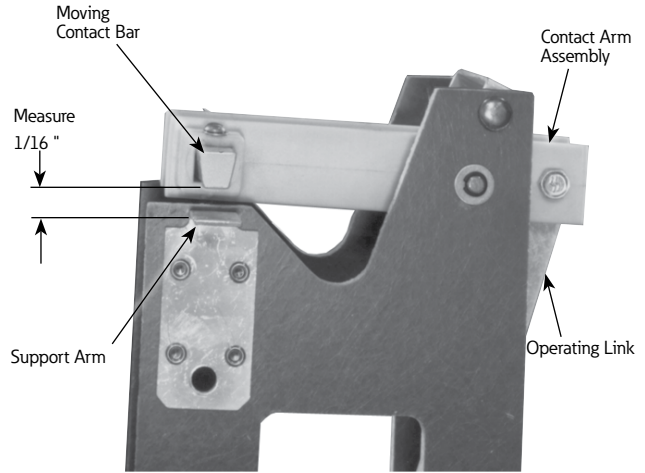

Figure 10. Contact engagement adjustment (stationary contact removed to show measuring point).
6. With the mechanism closed, the moving contacts should be within 1/16-inch of full engagement, as measured between the top edge of the moving contact insulator and the bottom edge of the contact box side plate as shown in Figure 10. To obtain this dimension, adjust the effective length of the insulated operating link by adjusting the attaching point for the contact arm assembly in the slotted hole of the link. Be sure to retighten the elastic stop nut when adjustment is completed.